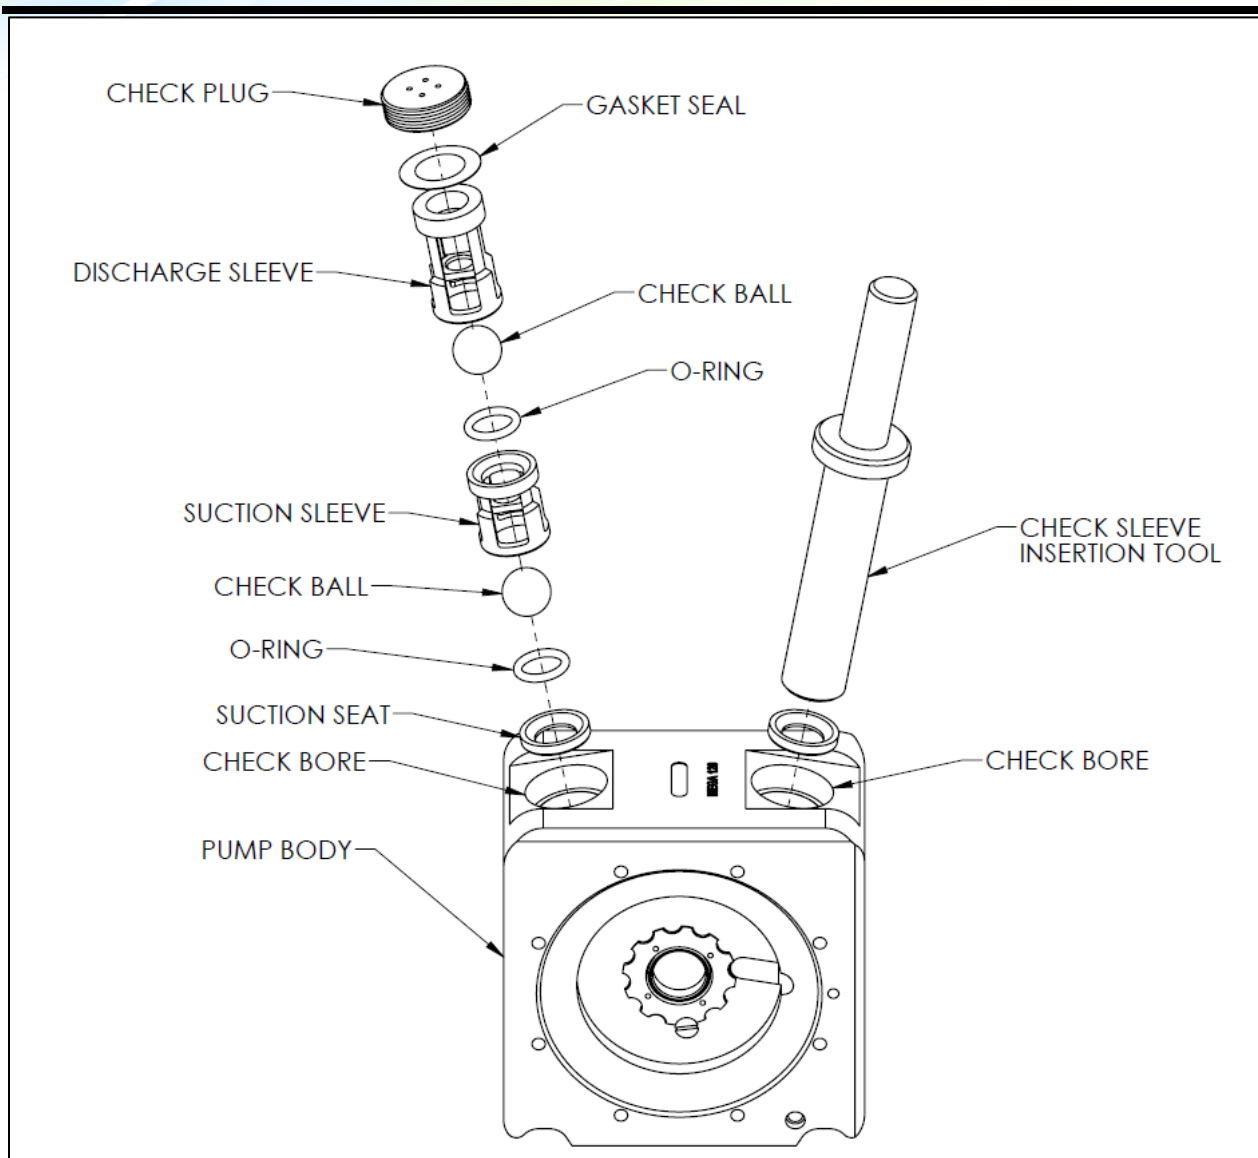

Figure 4-7
- See Figure 4-7 for the proper order of check assembly installation.